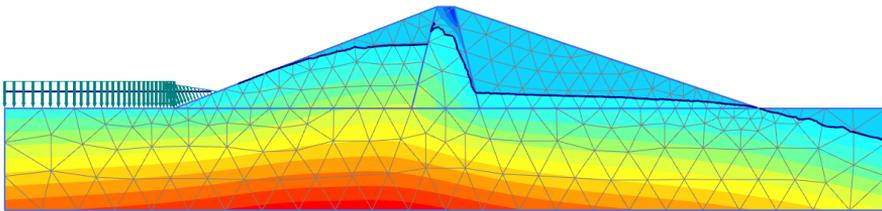

Figure 8.15 Pore pressure distribution, (p_{active}), after rapid drawdown
- The pore pressure distribution after rapid drawdown of the reservoir level (Figure 8.15).